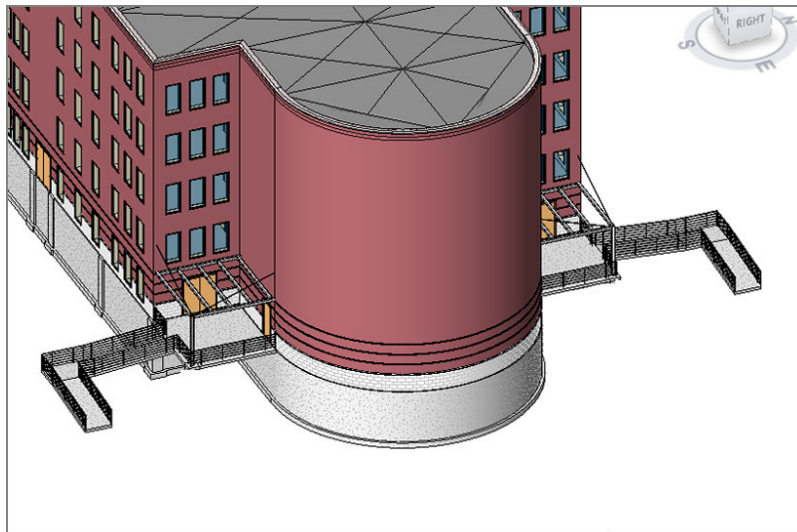

FIGURE 10.86: The two ramps
6. Mirror the slab, the ramp, and the railing to the other side of the building, as shown in Figure 10.86.